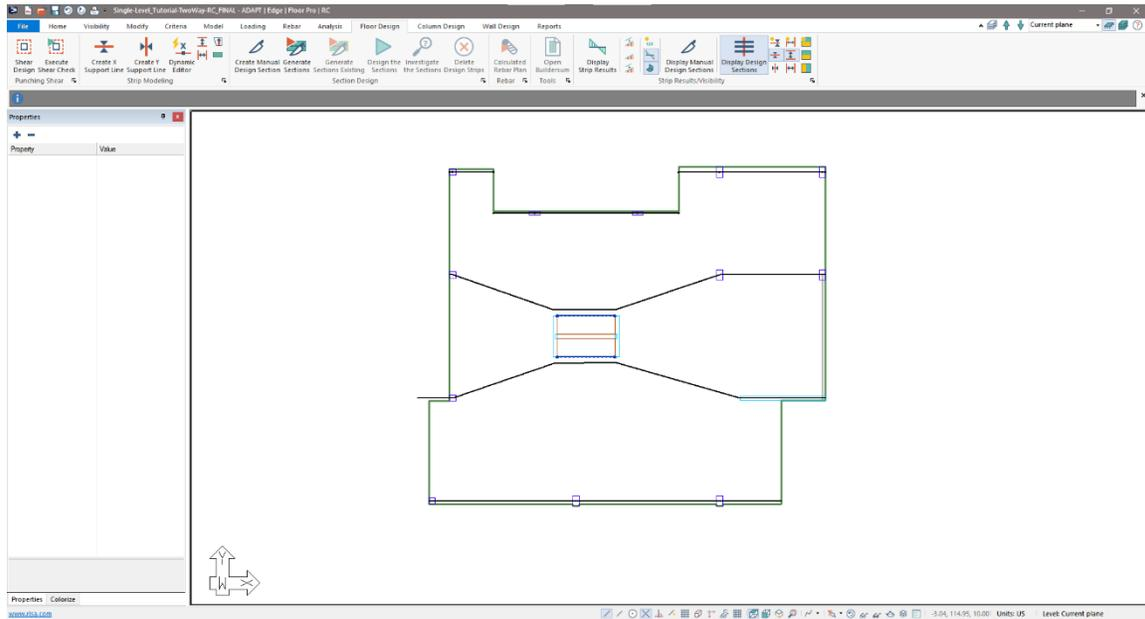

Figure 6-15
- When all X-direction support lines are entered the user's model should look similar to **FIGURE 6-15**.